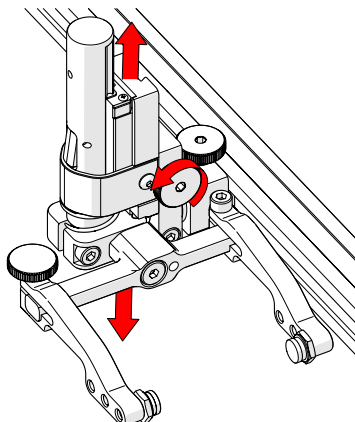

Fig. 172 - Vertical adjustment
2. Vertical adjustment knob allows the vertical probe holder height adjustment (Fig. 172).